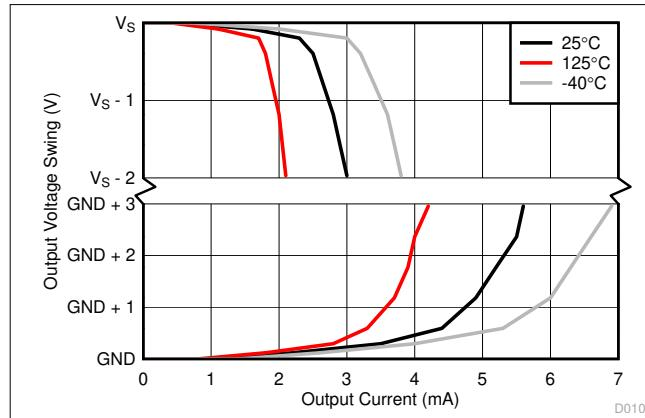

图 7-13. Output Voltage Swing vs Output Current
(1) See the Input Signal Bandwidth section for more details.
(2) See 图 7-13.